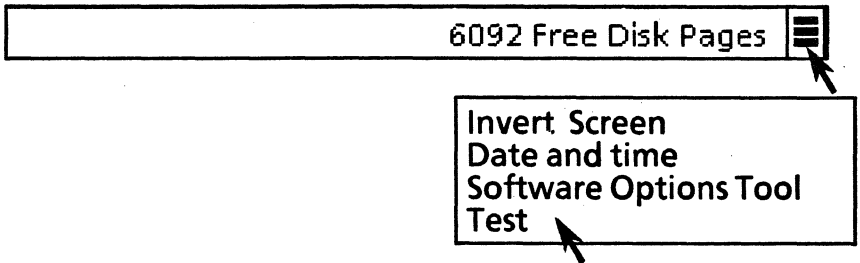

Figure 5-4 Desktop auxiliary menu
1. Select [Test] in the desktop auxiliary menu (Figure 5-4). The online diagnostics menu is displayed.